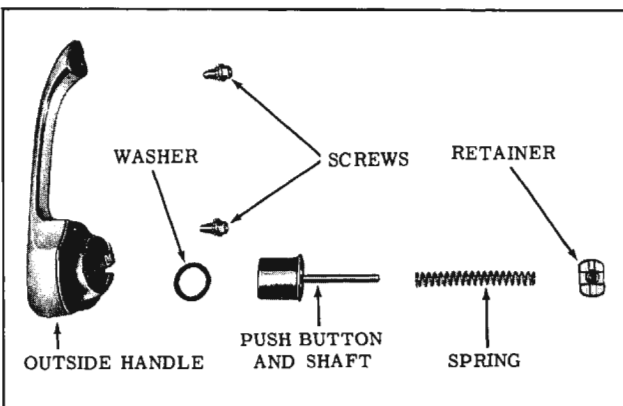

Fig. 16-19 Outside Handle Assembly
3. To assemble, reverse disassembly procedure. (Fig. 16-19)